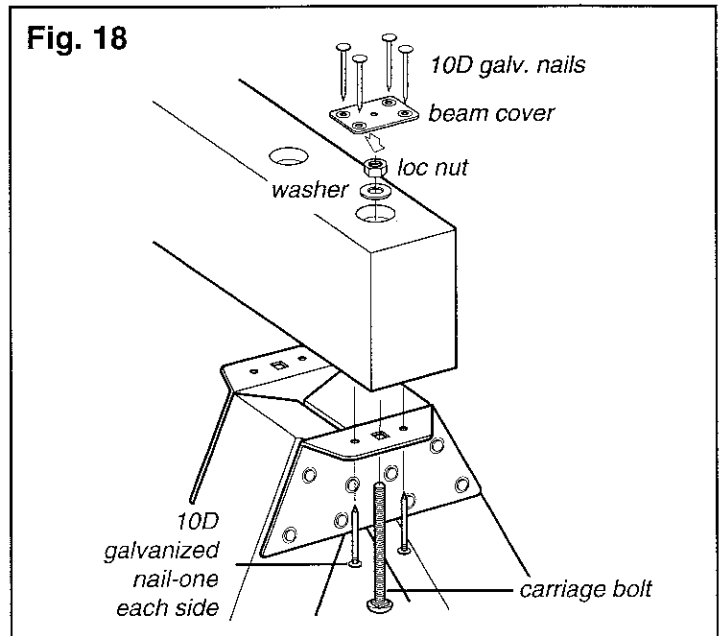

Fig. 18
1. Place beam on the ground and align EZ Frame brackets of the single A-Frame with corresponding holes in the beam (see pages 10 & 11 for hole locations). Insert a carriage bolt through the center hole in each EZ Frame bracket and continue through mating holes in the beam. Secure from above with a washer and loc nut (Fig. 18). Place a beam cover over the top of the counter-bore and secure using four 10D galvanized nails as shown in Fig. 18.
2. While frame assembly is still on its side, secure brackets in position using one 10D galvanized nail on each side of the carriage bolt (Fig. 18). **NOTE:** When building the *Trailblazer* or *Landmark*, a second A-Frame must be attached to the beam. Refer to Fig. 7 or Fig. 8 on pages 10 & 11 for the correct location of the second A-Frame and attach to the beam following steps 1 & 2.
3. Place the deck/A-Frame assembly upright in its final position. Lift beam and align appropriate holes with those in the deck/A-Frame assembly EZ Frame brackets (Fig. 19). Attach beam to the deck assembly using one carriage bolt and loc nut for each EZ Frame bracket. Secure brackets as in step 2 using one 10D galvanized nail on each side of the carriage bolt (Fig. 18).